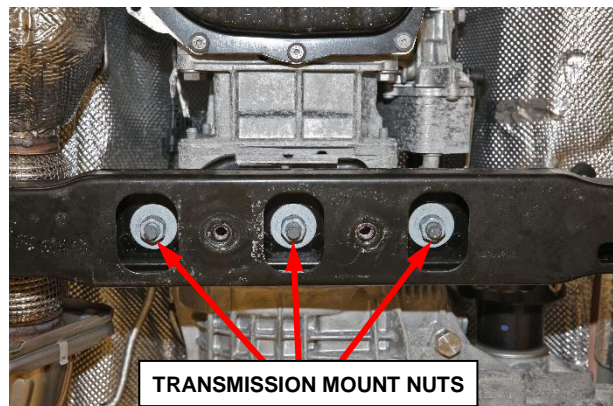

Figure 15 – Transmission Mount Nuts
17. Remove the transmission mount nuts (Figure 15).